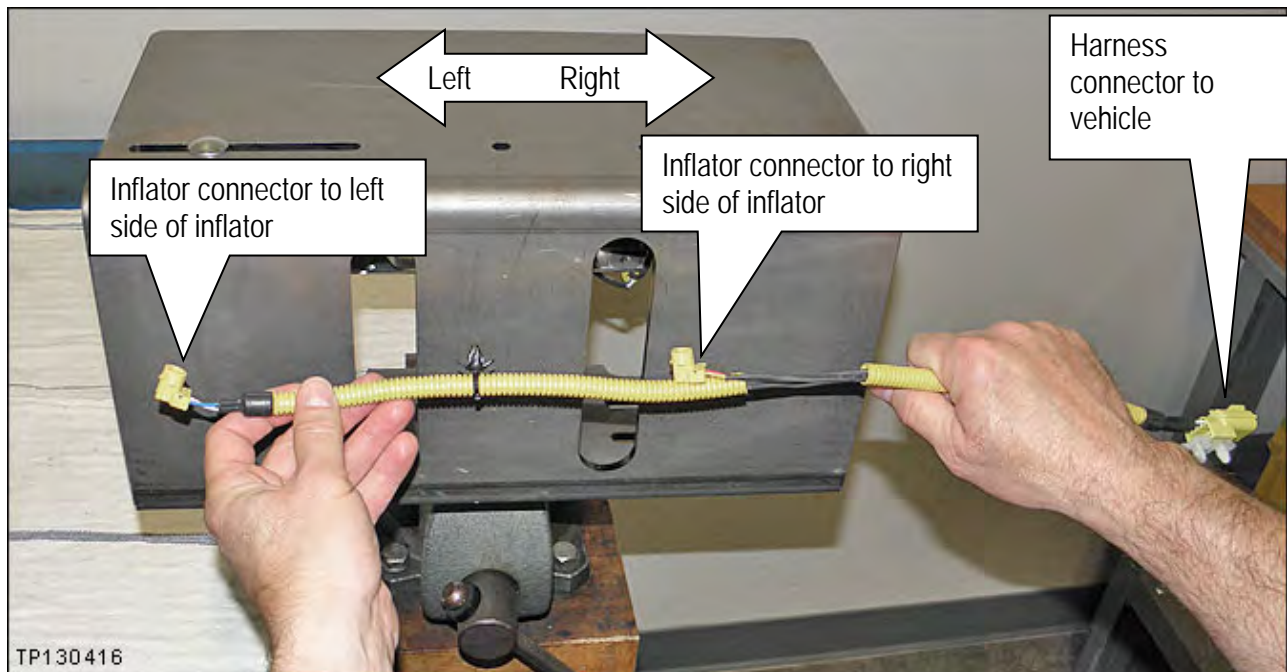

Figure 41
- **Make sure to attach the connectors to the correct ends of the inflator** (see Figure 41).
- Left / Right orientation is as shown in Figure 41.
- Make sure to attach the correct ends (see Figure 41 on the previous page).